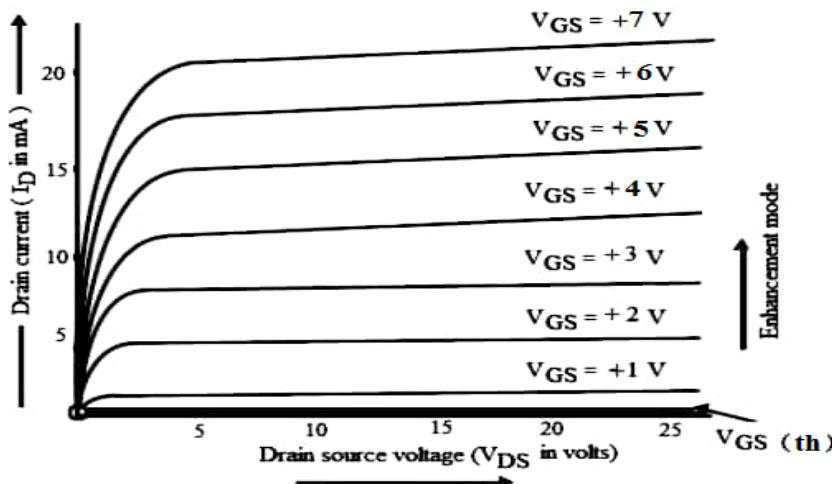

Figure 3.20 Drain characteristics of N channel E-MOSFET
3.12.1 Drain characteristics of enhancement type MOSFET: Figure 3.20 shows a set of drain characteristics for the N-channel E-MOSFET. It is clearly seen that almost no drain current flows unless the gate to source voltage (V_{GS}) is less than threshold voltage.